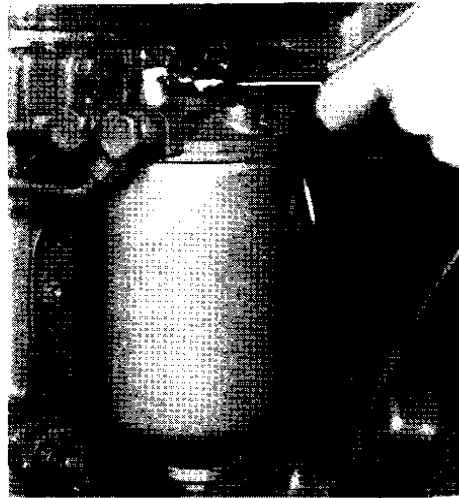

Fig. 10.
- (b) Unscrew the filter bowl in the centre of the head (see Fig. 10).